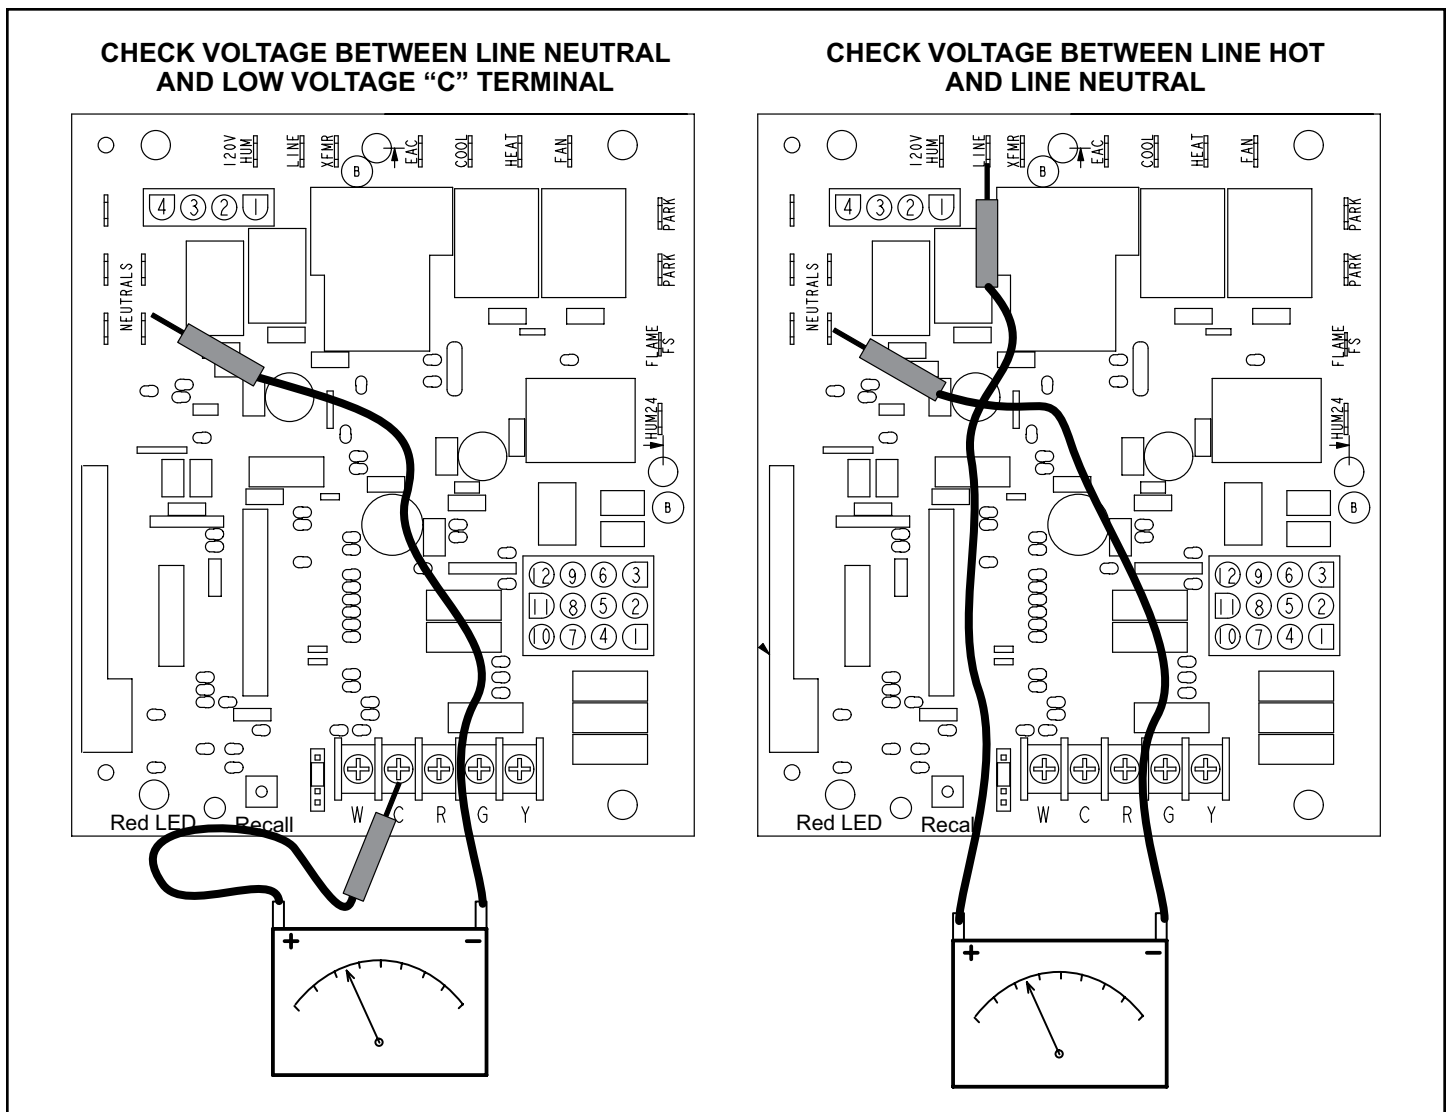

Figure 52.
1. Measure the AC voltage between Line Neutral (spade terminals) and "C" terminal (low voltage terminal block) on the integrated control. See Figure 52. A wide variation in the voltage between Line Neutral and "C"
2. In addition, measure the AC voltage from Line Hot to Line Neutral (spade terminals) on the integrated control. See Figure 52. This voltage should be in the range of 97 to 132 VAC
Blower speed tap changes are made on the integrated control. See Figure 3 or Figure 52. The heating tap is connected to the "HEAT" terminal and the cooling tap is connected to the "COOL" terminal. On all units the continuous blower tap is connected to the "FAN" terminal. Unused taps must be secured on two dummy terminals labeled "PARK". To change out existing speed tap, turn off power and switch out speed tap with tap connected to "PARK". See blower speed tap table on unit diagram for motor tap colors for each speed.